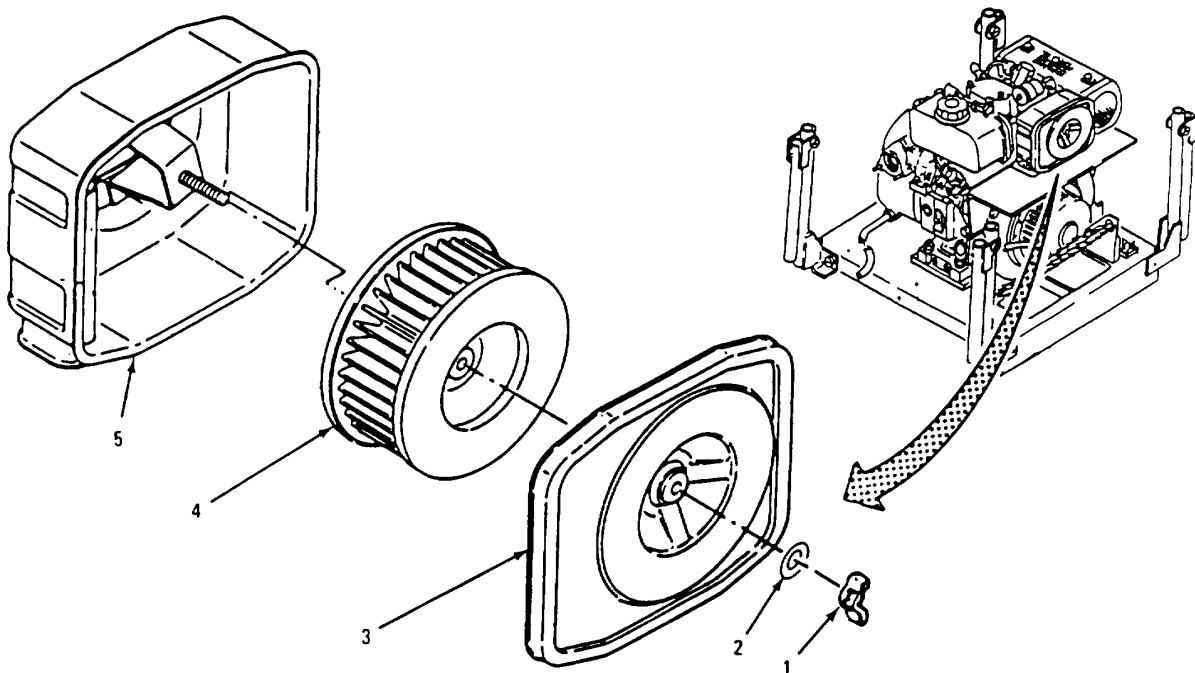

Figure 3-1. Replacing Air Finer Element
a. Removal. (Refer to Figure 3-1)
- (1) Loosen and remove wing nut (1) and washer (2).
- (2) Detach air cleaner housing cover (3).
- (3) Remove air filter element (4).